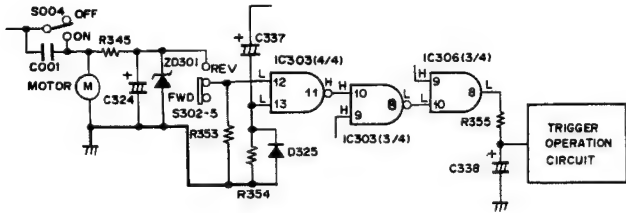

Fig. 7-11 FWD priority circuit
- This circuit diagram is shown in Figure 7-11. When the FWD/REV selector is at the REV position, the IC304 No.12 pin goes to H level via the route S004 → R345 → S302-5.